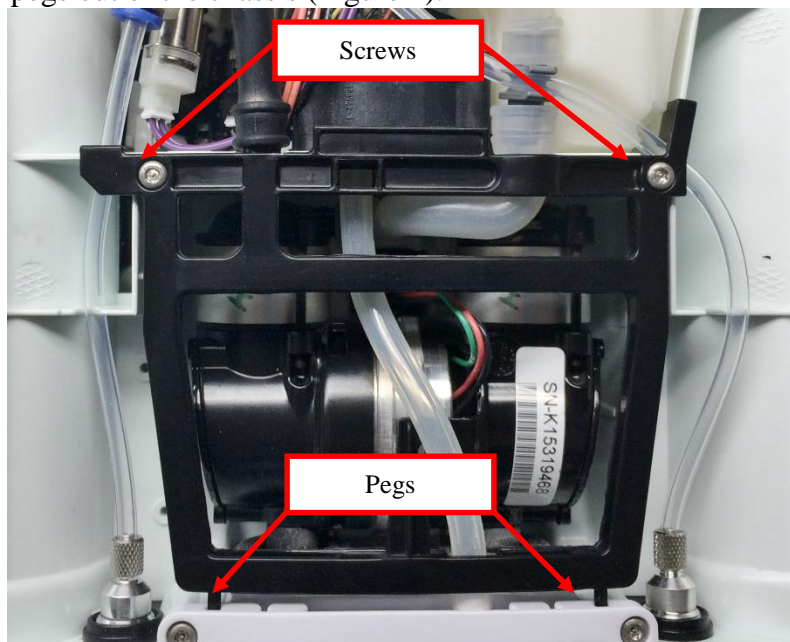

Figure 1: Tube Bracket and Muffler Assembly
1. Remove the two screws holding in the Tube Bracket and Muffler Assembly. Then slide the bracket pegs out of the chassis (Figure 1).